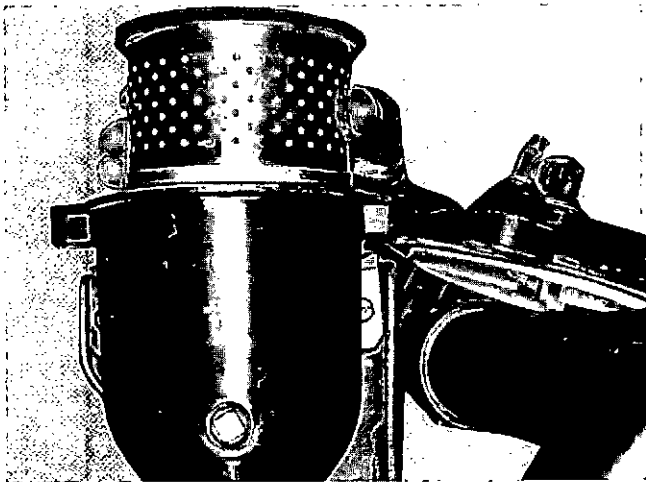

Fig. 2-23 (N11901) Changing water filter resistor element-package type
2. Remove cover capscrews and lift off cover; discard gasket and cannister or bag. Fig. 2-23.